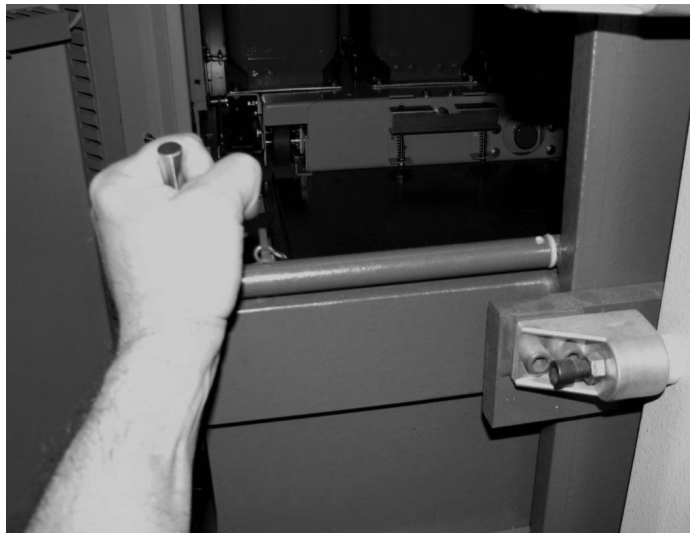

Figure 31. Releasing the Lifter Pan and Lifter from the Auxiliary Compartment.
7. Pull back on the pan safety latch release lever (see Figure 31) to release the safety latches and the pan from the compartment. Pull the lifter out and away from the switchgear unit.
11. Pull back on the pan safety latch release lever (see Figure 31) to release the safety latches and the pan from the compartment. Pull the lifter out and away from the switchgear unit.